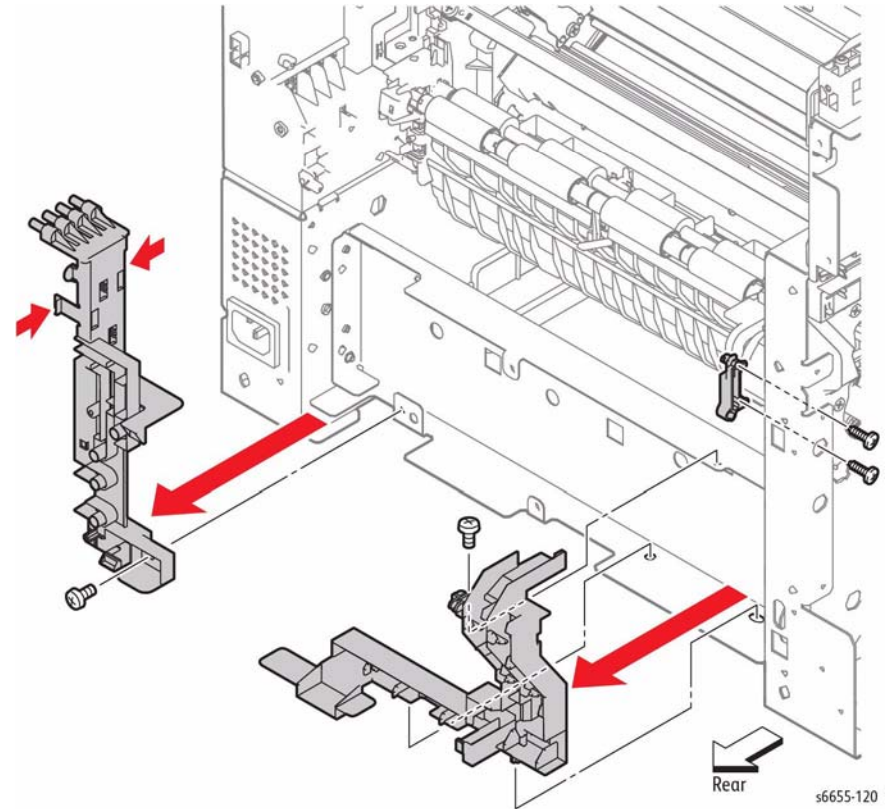

Figure 1 Remove the PH Harness Guide and the Rear Hinge Bracket
7. Refer to Figure 1 to remove the Inner Transfer Wire Housing Assembly by removing the screw (silver, 6 mm) near the bottom, and by releasing the two hooks on the sides.
9. Refer to Figure 1 to locate and remove the PH Harness Guide by removing the screw (silver, 6 mm) that attaches the PH Harness Guide and by releasing the two hooks.